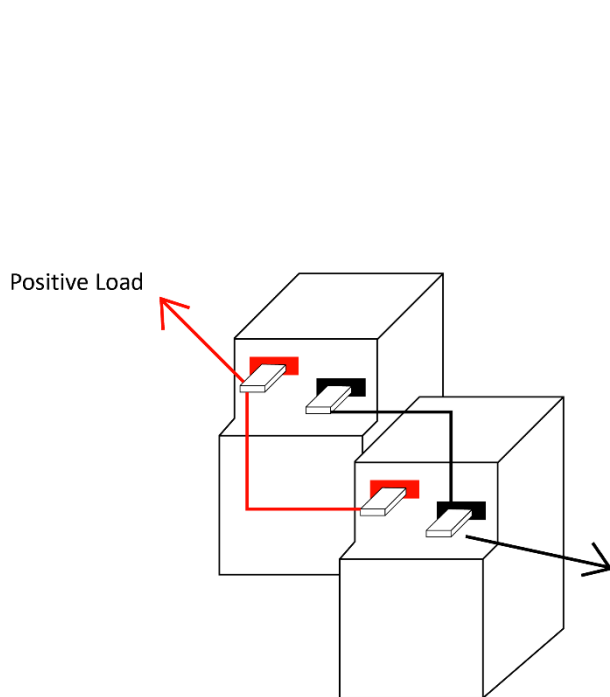
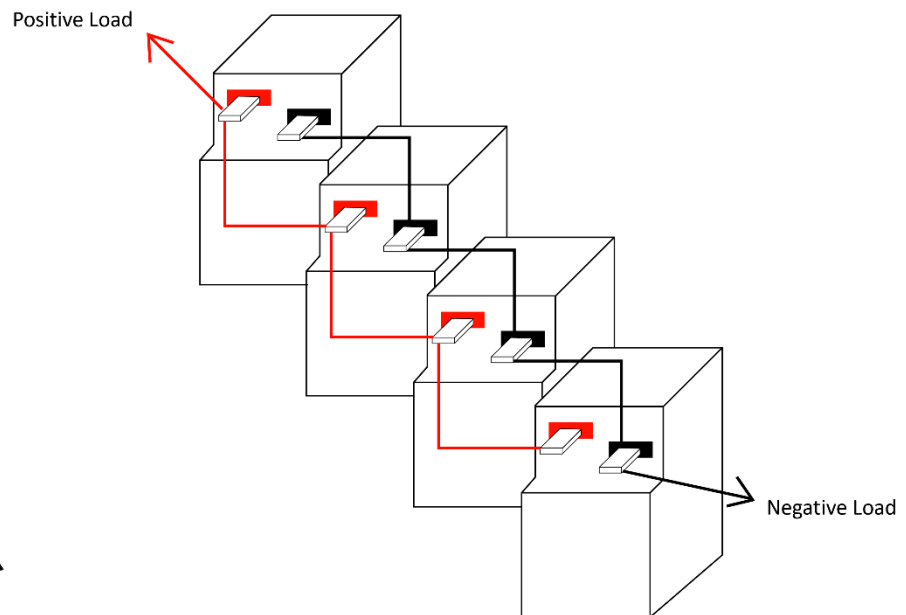

Figure 3.1: Two GC2|GC2H Batteries connected in Parallel to create a 12V 200Ah Battery Bank
Figure 3.2: Four GC2|GC2H Batteries connected in Parallel to create a 12V 400Ah Battery Bank
7. Repeat steps 3-6 for additional batteries in the system. An example of a finished connection can be found below in Fig. 3.1 and Fig. 3.2.